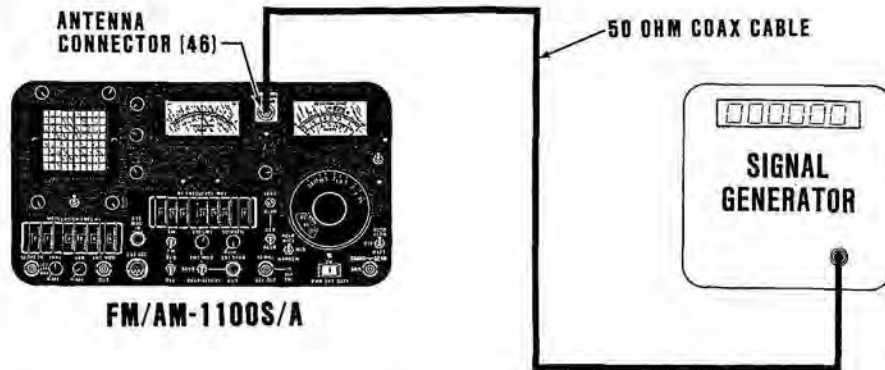
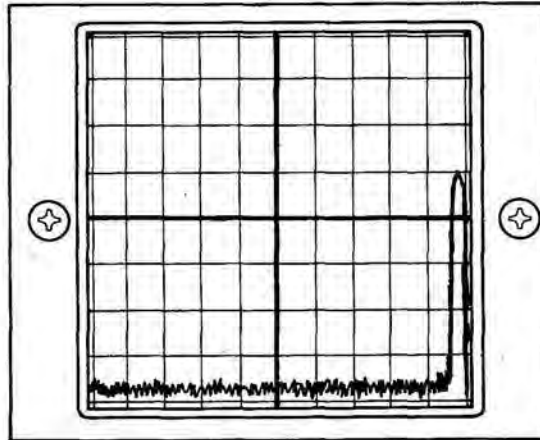

Figure 3-34 Spectrum Analyzer Test Set-Up Diagram
Figure 3-35 Wide Dispersion Spectrum Display 5 Graticule Divisions Right Of Major Vertical Axis
1. Connect FM/AM-1100S to accessory equipment as shown in Figure 3-34.
4. Set PWR/OFF/BATT Switch (11) to "PWR". Allow a 30 second warm-up time from a cold start, as trace will not become visible until CRT achieves warm-up. Verify baseline is at 109 dB.
5. Adjust output level of Signal Generator to -30 dBm and verify displayed signal on CRT Display (36) is -30 dBm (± 4 dB).
6. Adjust output level of Signal Generator to -40 dBm and verify displayed signal on CRT Display (36) is -40 dBm (± 4 dB).
7. Adjust output level of Signal Generator to -50 dBm and verify displayed signal on CRT Display (36) is -50 dBm (± 4 dB).
8. Adjust output level of Signal Generator to -60 dBm and verify displayed signal on CRT Display (36) is -60 dBm (± 4 dB).
9. Adjust output level of Signal Generator to -70 dBm and verify displayed signal on CRT Display (36) is -70 dBm (± 4 dB).
10. Adjust output level of Signal Generator to -80 dBm and verify displayed signal on CRT Display (36) is -80 dBm (± 4 dB).
11. Adjust output level of Signal Generator to -90 dBm and verify displayed signal on CRT Display (36) is -90 dBm (± 4 dB).
12. Adjust output level of Signal Generator to -100 dBm and verify displayed signal on CRT Display (36) is -100 dBm (± 4 dB).
14. Set RF FREQUENCY MHz Thumbwheels (34) to "1200000" and verify Signal Generator spectrum displayed on CRT Display (36) is 5 graticule divisions to right of the major vertical axis (± 4 minor graticule divisions). (See Figure 3-35.)